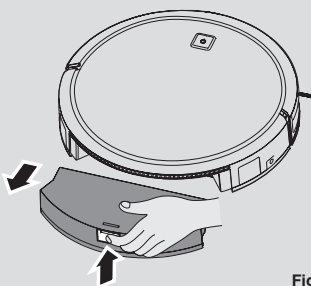

Fig. 13
1. Press the release button and pull it out. [Fig. 13]
2. Press the dust container release button and remove the dust container from the Robot. [Fig. 13]